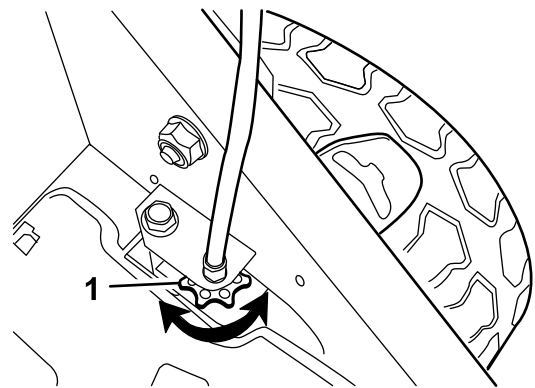

Figure 23
- If the wheels do not spin when you engage the self-propel-drive bar, the traction belt is too loose. Rotate the wheel-drive-control knob (Figure 23) clockwise 1 turn and repeat steps 4 through 6.
- If the wheels spin before you fully engage the self-propel-drive bar, the traction belt is too tight. Rotate the wheel-drive-control knob (Figure 23) counterclockwise 1 turn and repeat steps 4 through 6.